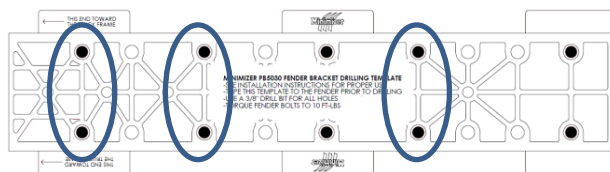

Figure 14
- ii. For MIN1600 and MIN1900 fenders use the 6 bolt holes circled in Figure 14.